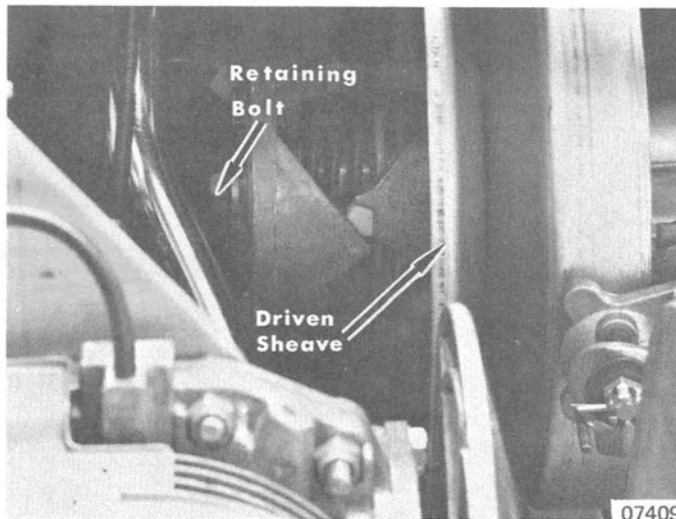

Figure 1. Driven Sheave
4. Hold snowmobile brake and remove driven sheave retaining bolt, lockwasher and bushing. (Figure 1)